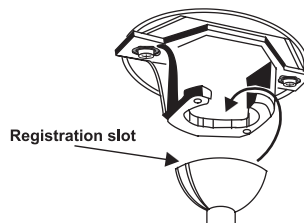

Figure 7
Step 7. Place the downrod ball into the hanger bracket. This will allow you to make the electrical connections. (Fig. 7)